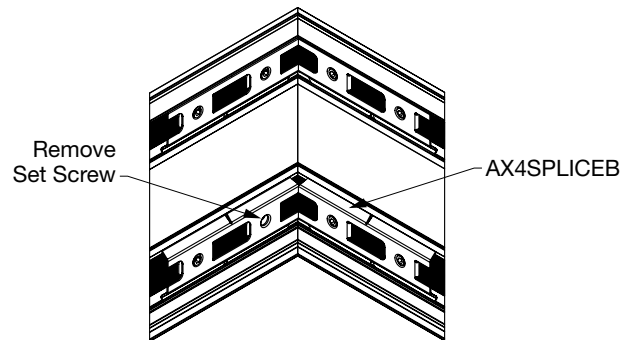

Fig 44
- Remove the second from the left hex head set screw (**Fig 44**)